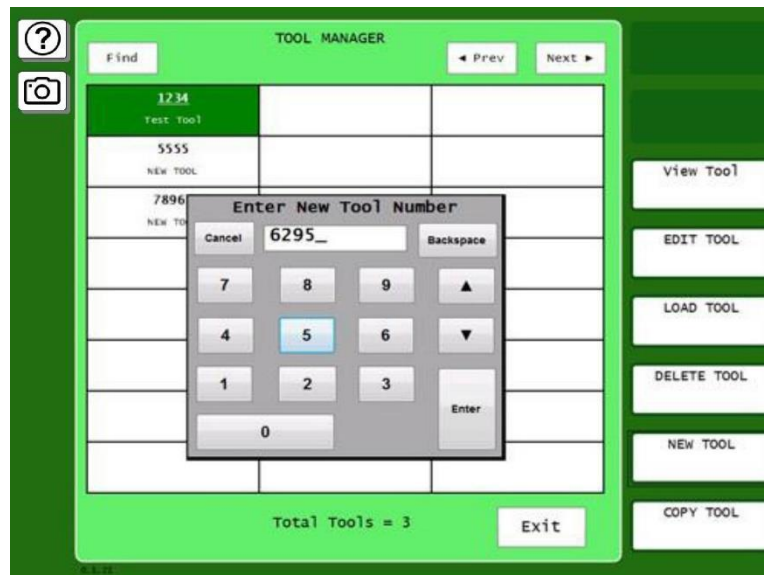

Figure 4-5. Tool Manager Screen with Numeric Entry Window
1. On the Tool Manager screen, press New Tool. The Numeric Entry keypad displays, Figure 4-5.